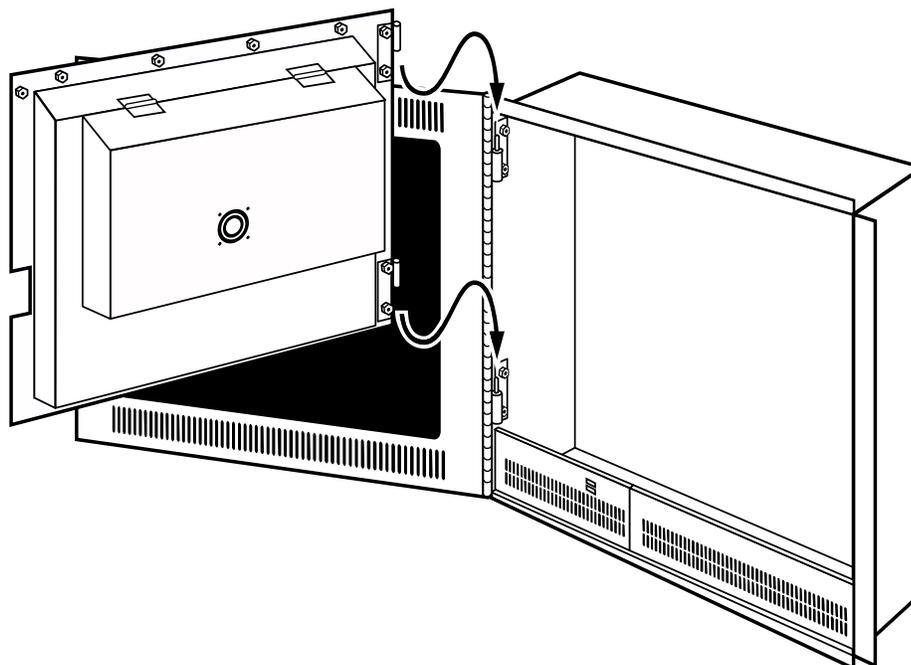

Figure 2.4 Mounting the LCD Display on the Enclosure
1. Lift the LCD display (P/N FIRSTVISION-LCD) so that the bottom of its hinge is slightly higher than the receiving hinge on the enclosure (see Figure 2.4).